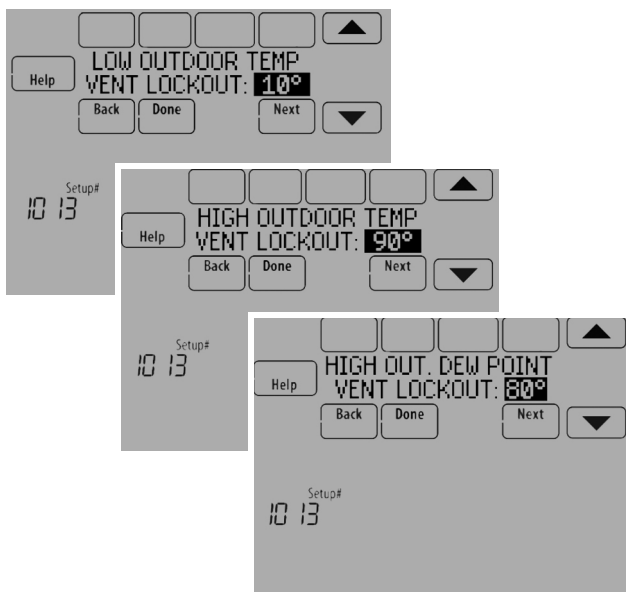

Fig. 165.
9. Select the Outdoor Condition Lockouts. See Fig. 165. See "Ventilation — Outdoor Condition Lockouts (ISU 1013)" on page 68 for more information.